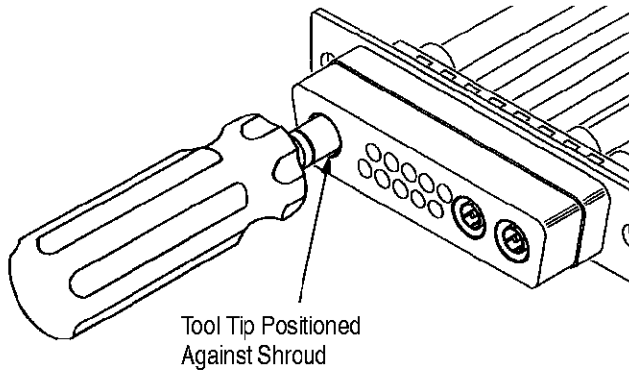
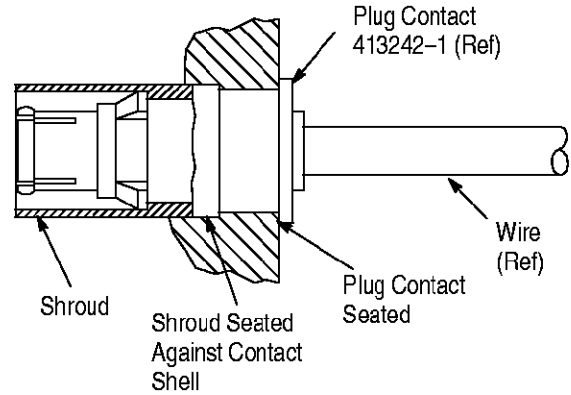

Figure 3
Figure 4
2. Position the tool tip against the shroud; then push the tool toward the plug contact to snap the shroud into place. See Figure 3. The plug contact must stay seated against the rear face of the connector insert while pushing the the shroud into place. See Figure 4.
3. Pull back on the wire to ensure that the shroud is fully seated on the contact. The shroud is properly installed if it is seated against the shell of the contact. See Figure 4.
- Revised Figure 4